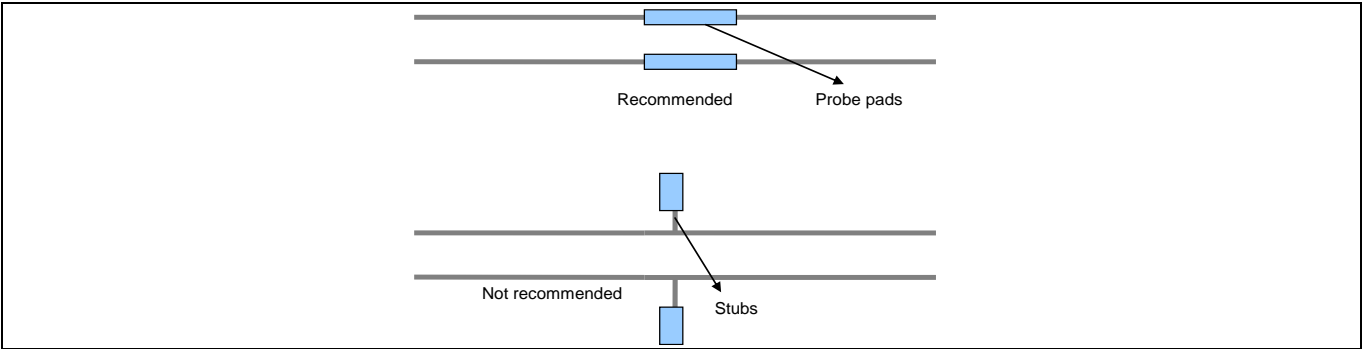

Figure 27 Probing pads placement
- Avoid stubs on all USB lines. If pads are needed on the lines for probing purposes, they should not extend out of the trace in the form of a stub. See **Figure 27**.